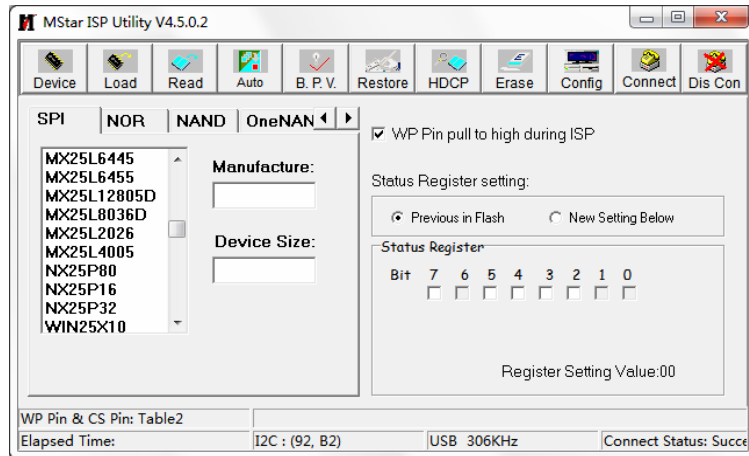

Fig. 2 Write-protect setup
- Using **Mstar** online burning program, enter into menu “**Device**”, tick option “**WP Pin pull to high during ISP**” to ensure that hardware write-protect of Flash is removed and erasing process is normal, please refer to Fig. 2;